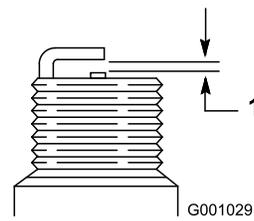

Figure 29
4. Set the gap between the electrodes on the spark plug at 0.030 inch (0.76 mm) (Figure 29).